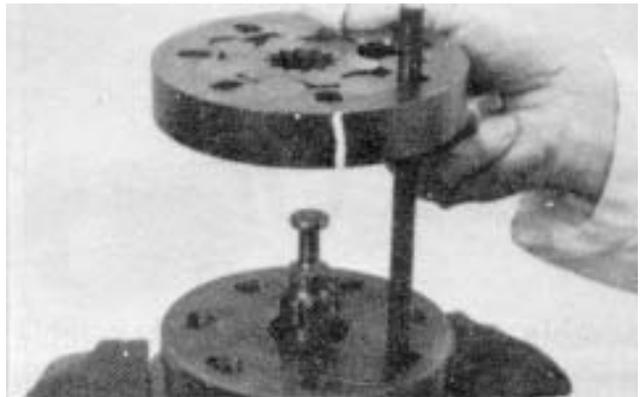
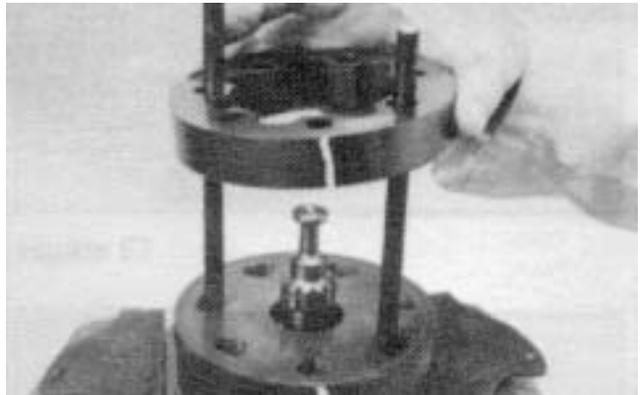

Figure 79
Figure 80
**NOTE:** The rotor set consists of the rotor (19), vanes (20), and stator (21). Rotor set components may become disassembled during service procedures. Do not service separately.
**NOTE:** It may be necessary to turn one alignment stud out of the housing (3) temporarily to assemble rotor set over the drive link (13).
**NOTE:** The rotor set rotor counterbore side must be down against wear plate for drive link clearance and to maintain the original rotor–drive link spline contact. A rotor set without a counterbore and that was not etched before disassembly can be reinstalled using the drive link spline pattern on the rotor splines if apparent, to determine which side was down. The rotor set seal ring groove faces toward the wear plate (18).
13. Install assembled rotor set onto wear plate (18) with rotor (19) counterbore and seal ring side down. Splines should mesh with the drive link (13) splines (Fig 79).
14. If disassembled rotor (19), stator (21), and vanes (20) cannot be readily assembled by hand, assemble with the following procedures:
A. Place stator (21) onto wear plate (18) with seal ring (5) side down. Be sure the seal ring is in place (Fig. 80).
B. If assembly alignment studs are not being utilized, align stator (21) bolt holes with wear plate (18) and housing (3) bolt holes. Screw two cap screws (14) finger tight into bolt holes approximately 180 degrees apart to retain stator and wear plate stationary.
**NOTE:** If the manifold (22) side of the rotor (19) was etched during wheel motor disassembly, this side should be up. If the rotor is not etched and does not have a counterbore, use the drive link spline contact pattern apparent on the rotor splines to determine the rotor side that must be against the wear plate.